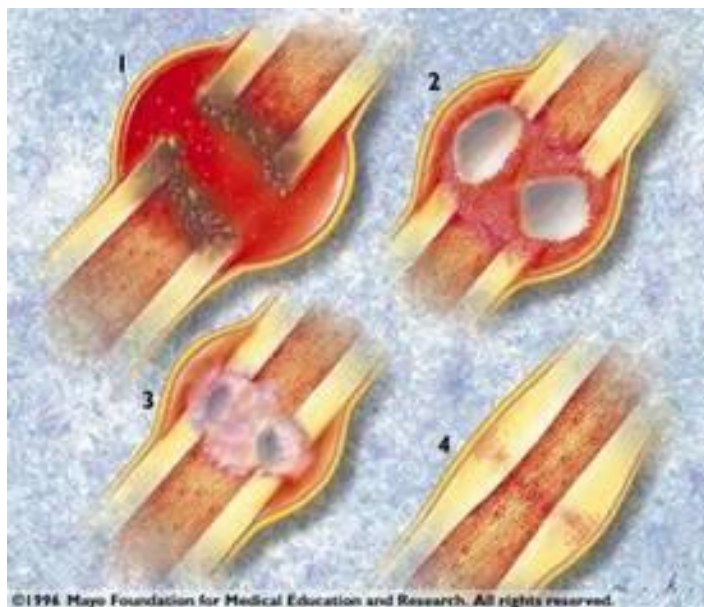

Figure 1
When a bone breaks it immediately begins to heal itself. When minor fractures occur, doctors cast the broken region so it will not move while healing. Figure 1 illustrates the steps of this healing process. Problems occur, however, when bones are not able to heal correctly on their own. In these cases, doctors and engineers are needed.
IMAGE Insert Figure 1 here, centered
Caption: Figure 1. After a bone fracture, (1) within minutes, blood clots form and inflammation occurs, (2) within two days to two weeks, soft bridging bone forms, (3) within two to six weeks, hard bridging bone forms, (4) and full union takes place within three to six months (quicker for children).